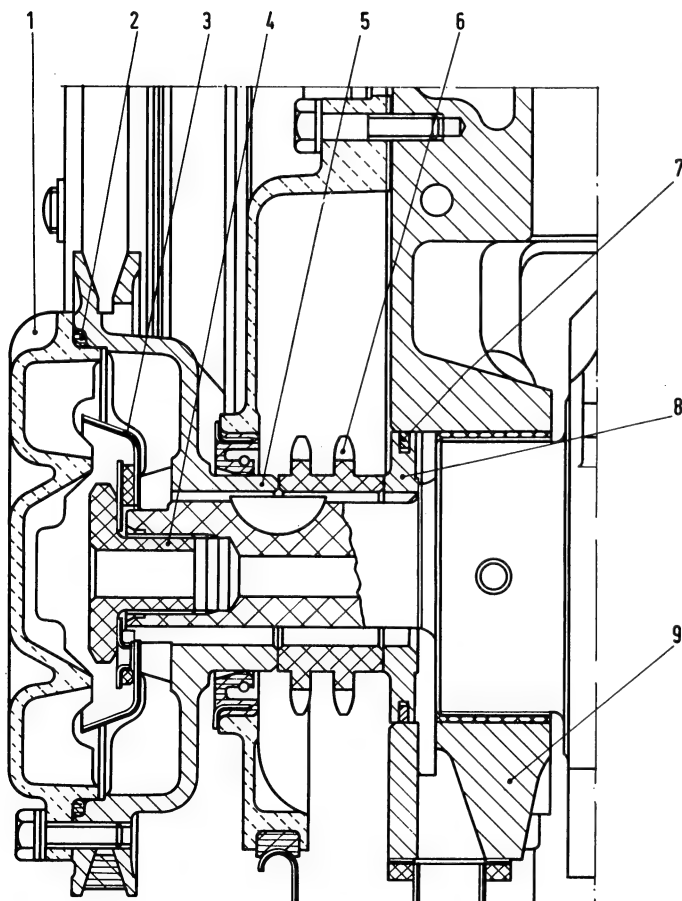

Fig. 69. - Detail of 115 C.005 engine side section view across centrifugal oil filter.
The centrifugal oil filter consists basically of a cover (1, fig. 69), a pulley hub (5) and a baffle ring (3).